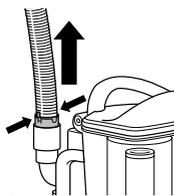

Fig. 25
- Detach the stretch hose from the back of the detachable canister by squeezing the tabs together and pulling up. **(Fig. 25)** Straighten out the hose and look inside for blockages.